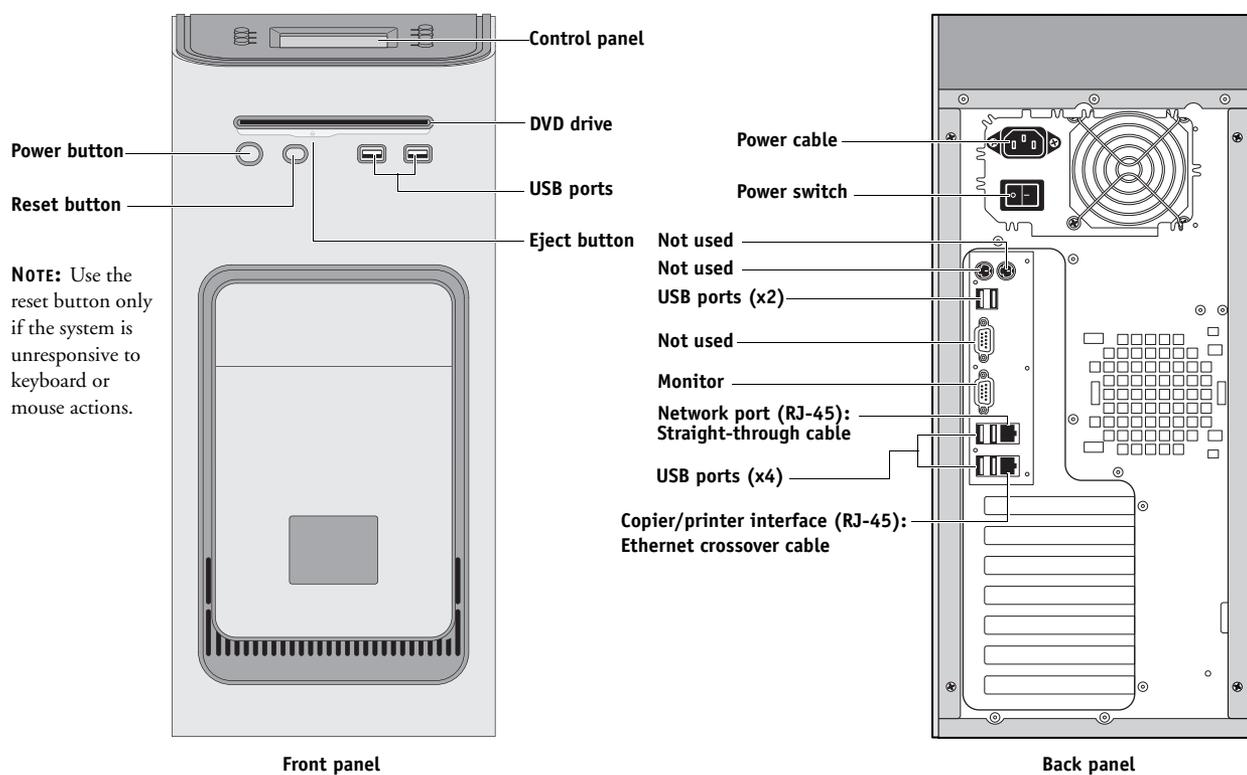

FIGURE 6: E-41 connections
1. Connect the recessed end of the E-41 power cable to the power connector on the back of the E-41 (see Figure 6 on page 28).
Make sure that you connect the cable to the correct RJ-45 port (see Figure 6 on page 28). The network and copier/printer interface cables look similar but are not interchangeable. The copier/printer interface cable included with the E-41 is a 39.3 ft. Ethernet *crossover* cable that connects to the lower RJ-45 port on the E-41 back panel. The network cable at the customer site is a *straight-through* Ethernet cable that connects to the upper RJ-45 port on the E-41 back panel. To verify the cable type, align the connectors on each end of the cable as shown in Figure 7. On a straight-through cable, the wire arrangements are identical on both ends; on a crossover cable, the wire arrangements are different.
2. **Connect the straight-through network cable to the upper RJ-45 port on the E-41 back panel (see Figure 6 on page 28).**
Make sure that you connect the cable to the correct RJ-45 port (see Figure 6 on page 28). The network and copier/printer interface cables look similar but are not interchangeable. The network cable at the customer site is a *straight-through* Ethernet cable that connects to the **upper** RJ-45 port on the E-41 back panel. The copier/printer interface cable included with the E-41 is a 39.3 ft. Ethernet *crossover* cable that connects to the **lower** RJ-45 port on the E-41 back panel.